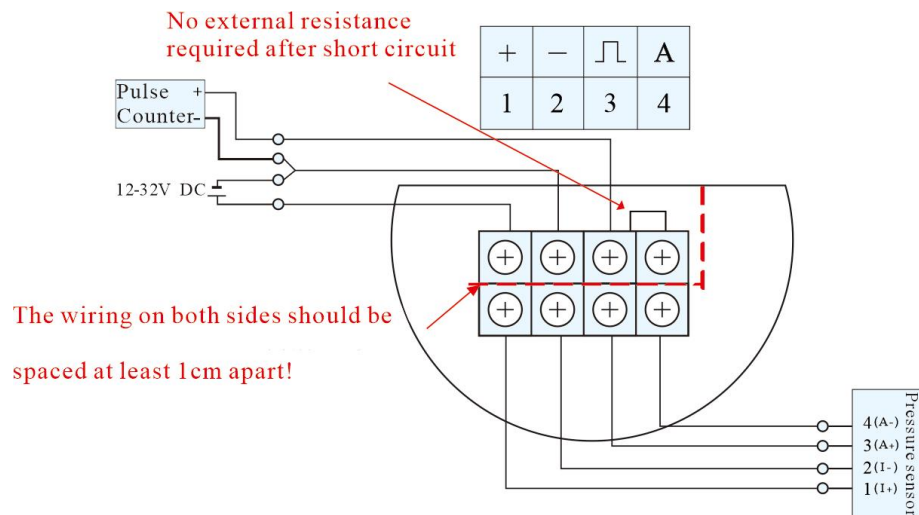

Fig.13
3. Connect external power supply DC12V~32V, pulse output+pressure sensor (Fig.13).